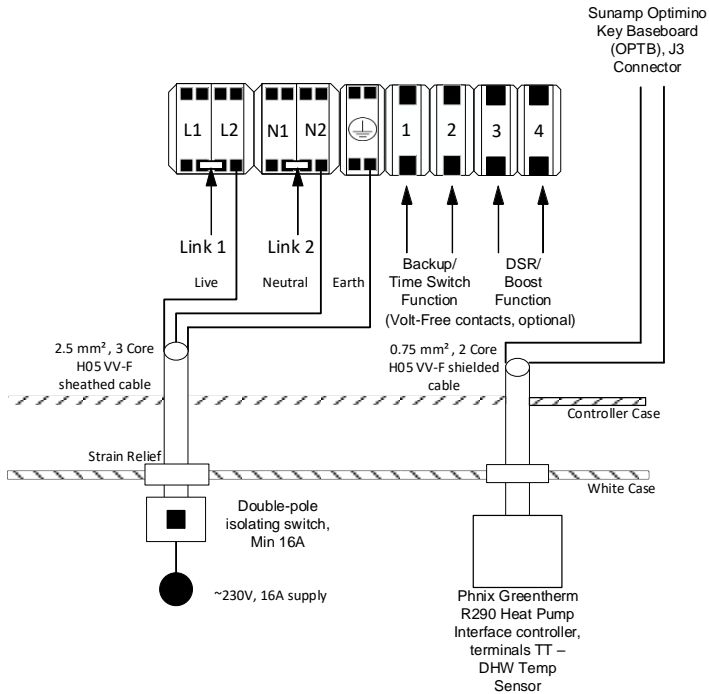

Figure PX.1 – Thermino xPlus with PX01 Optimino key
- Thermino xPlus with the “PX01” & “PX02” Optimino keys (D0084 – Section 6.4.2 for wiring instructions & Figures PX.1 & PX.2 below)
J3 on the Optimino Board, please see Figures PX.1 & PX.2 below for reference.